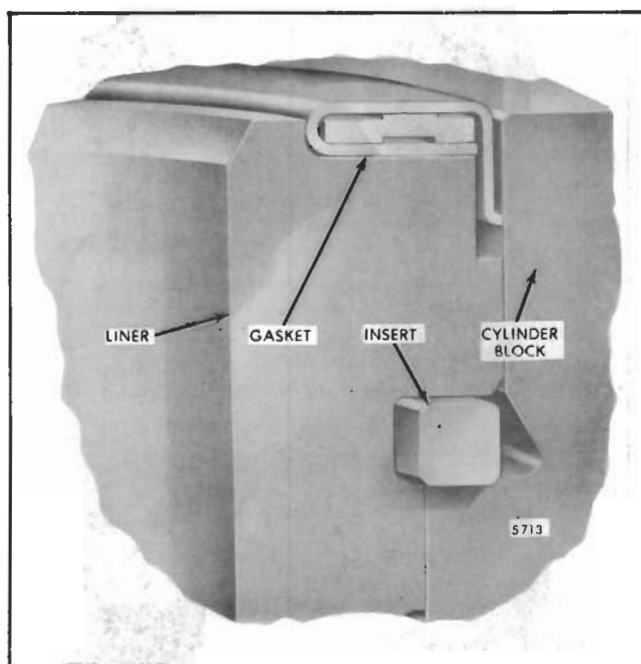

Fig. 6 - Cylinder Liner Mounting in Block
2. Place the liner insert (previously tagged) in the counterbore of the block (Fig. 6). Refer to Table 1 for the dimensions and identification of the liner inserts available, if a new liner insert is required. The .015" thicker inserts are used where the cylinder block counterbore is .015" or more below standard specifications.